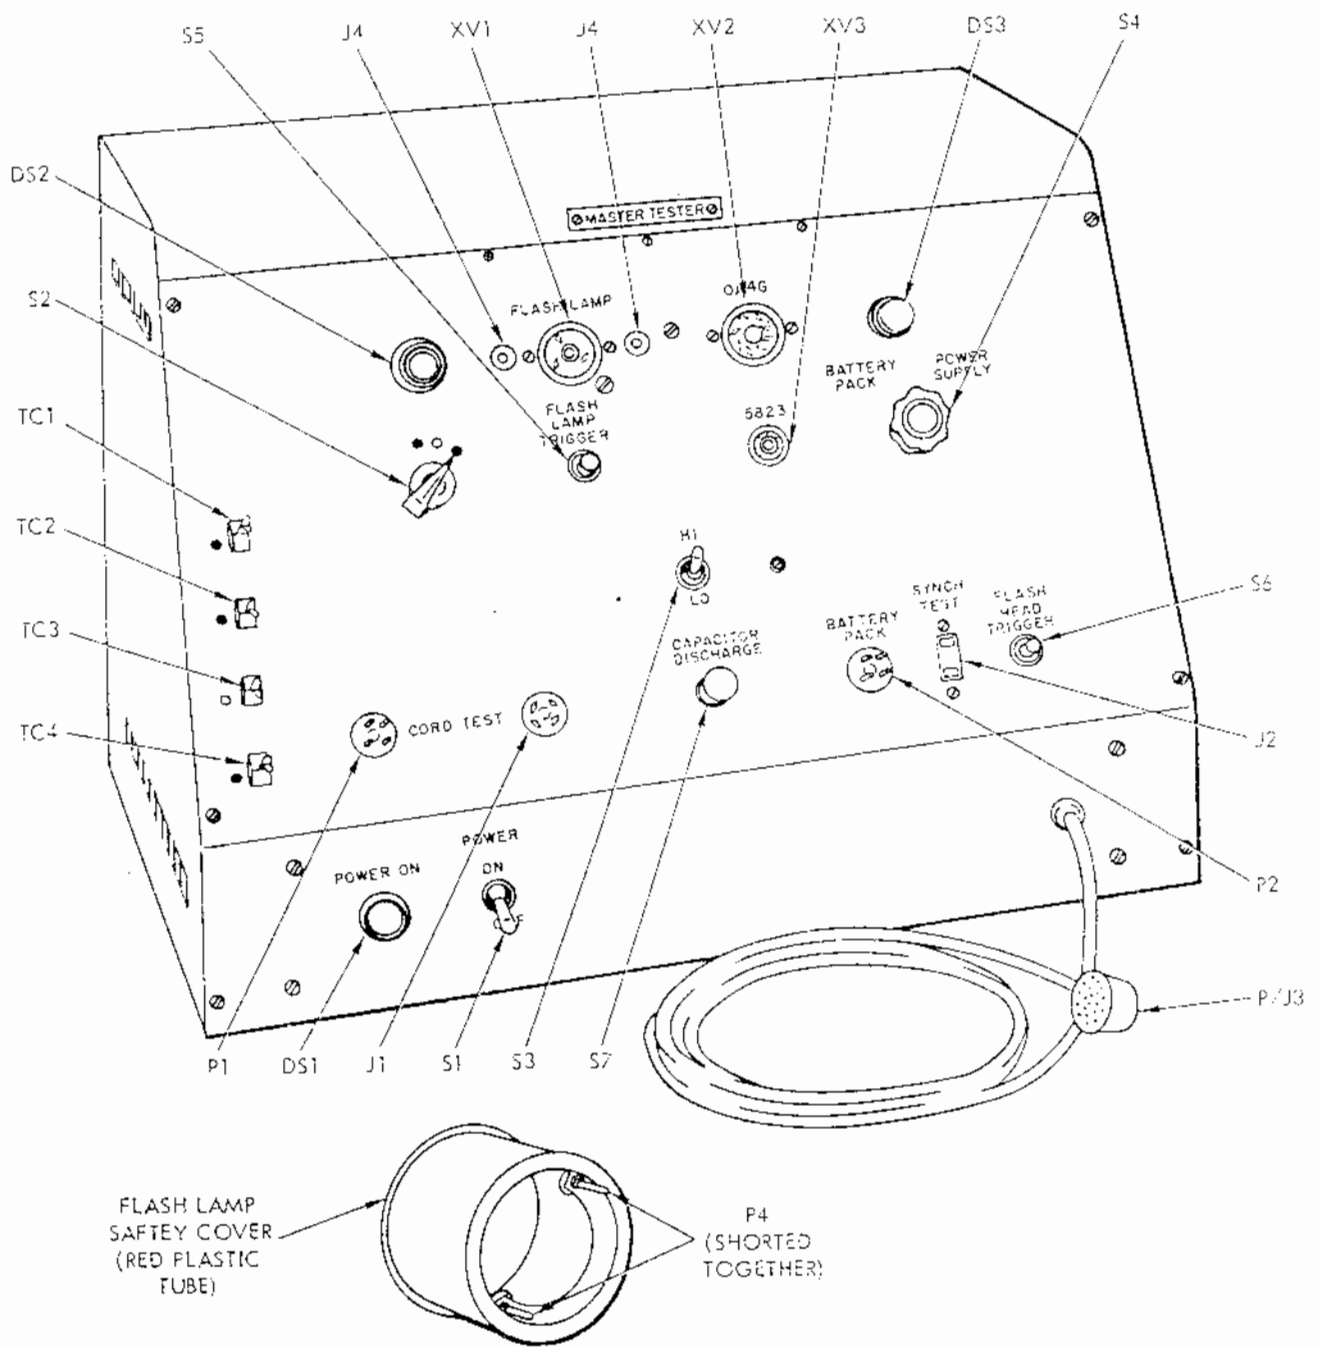

Figure 5. STROBOFLASH MASTER TESTER, FRONT VIEW
1. Stroboflash Master Tester (see figure 5)
**NOTE:** Paragraphs G and H and figures 5 through 8 provide necessary information for construction, operation, and calibration of the master tester.
The Strobflash Master Tester is a special piece of test equipment that provides for checking all electrical functions of the Strobflash equipment. This equipment will help to isolate trouble areas within the electrical circuits of the lamphead or power pack with minimum time and effort. An equivalent tester may be constructed locally by referring to figures 5 through 8 and the list of materials given on page 7.